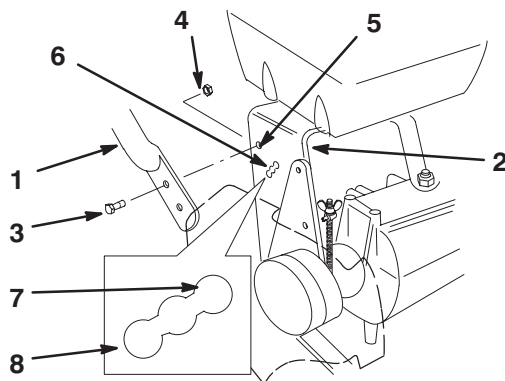

Figure 4
1. Align upper handle with upper mounting holes in rear frame (Fig. 4).
2. Secure each upper mounting hole with a flange bolt (3/8 x 1 in. (26mm)) and flange nut (Fig. 4).
3. Select high, medium or low position for the lower mounting hole (Fig. 4). This allows the upper handle to be adjusted to the user's height preference.
4. Secure each lower mounting hole with a flange bolt (3/8 x 1 in. (26mm)) and flange nut (Fig. 4).